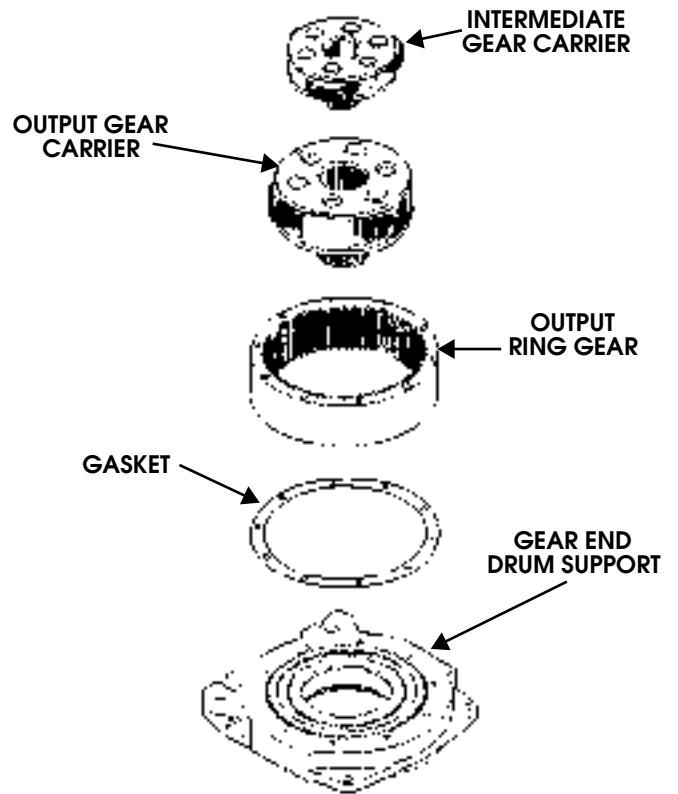

Figure 9-168: Gear Carriers
21. Remove intermediate gear carrier and output gear carrier from output ring gear and gear end drum support (Figure 9-168)